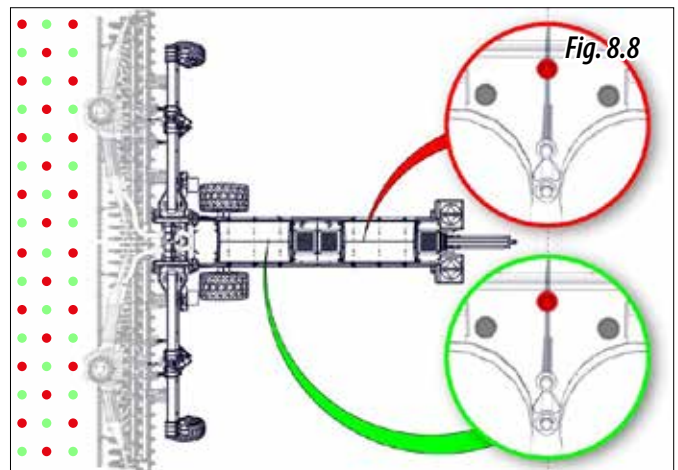

Fig. 8.8
- **FERTILIZER/SEED** (Fig. 8.8).
FOR MACHINE CONFIGURATIONS WITH DIFFERENT PRODUCTS FOR EACH HOPPER (FIG. 8.8), IT WILL NOT BE POSSIBLE TO SHUT OFF CUT HALF MACHINE.